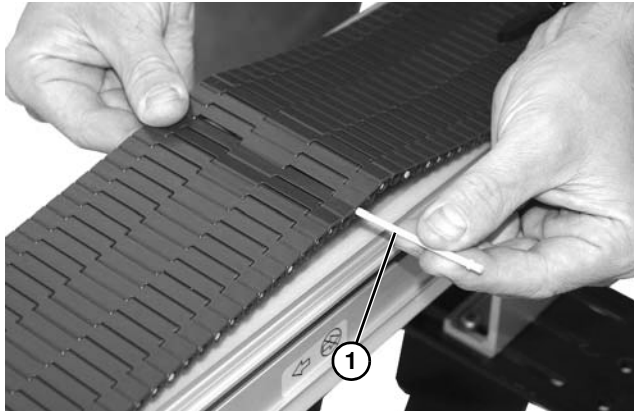

Figure 42
5. Splice the belt together by pushing the plastic rod (**Figure 42, item 1**) through the side hole on the rod retaining side of belt.